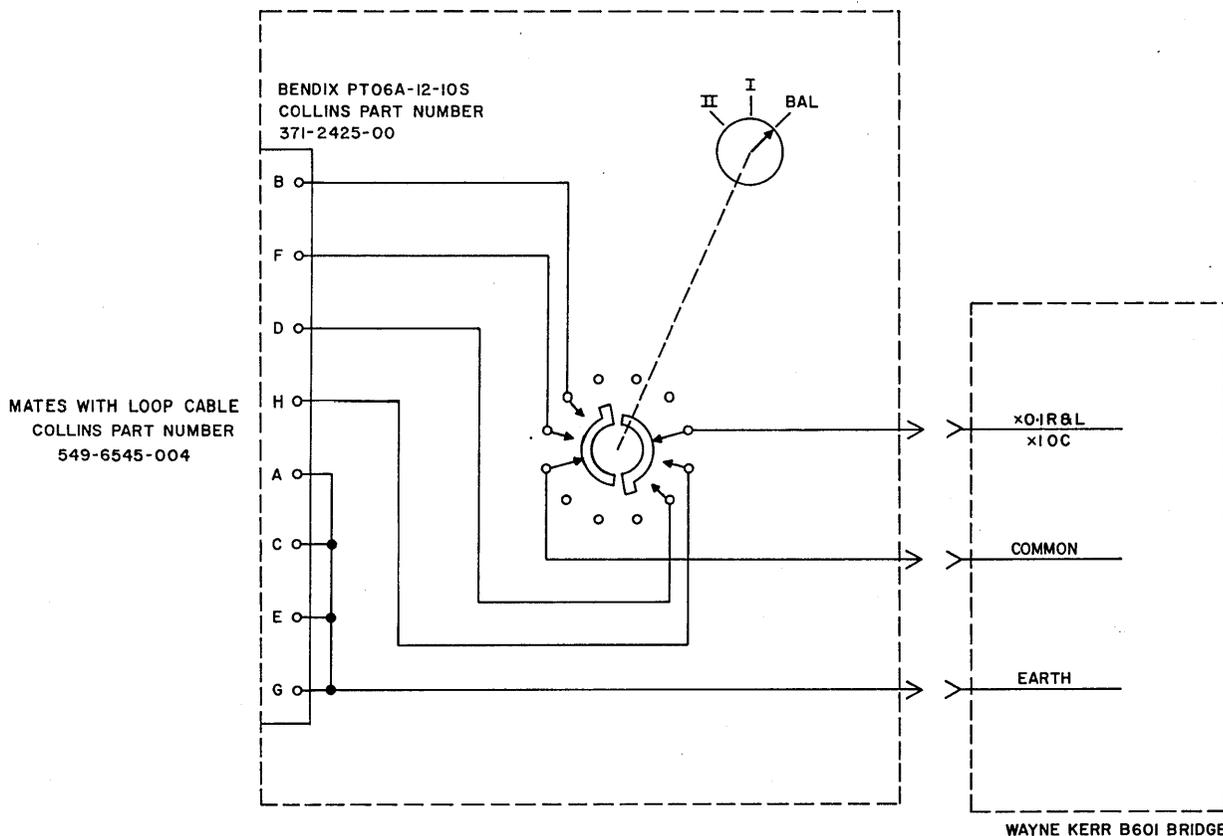

Figure 5-4. 477U-2 Test Jig
- a. Construct the test jig shown in figure 5-4.